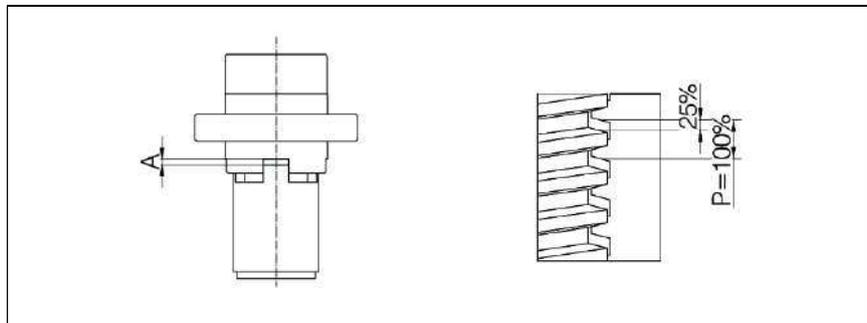

Fig. 20: Safety trap nut SIFA: Dimension "A" for comparison when checking wear
4. If a safety nut SIFA is available. Measure and note down dimension "A" (see fig. 20). This dimension in new condition serves as a comparative measure in the further course of operation in order to be able to evaluate the wear (see chapter 7.1.1.)
3. If a safety nut SIFA is fitted: Check wear in accordance with the Fig. 20 (right hand picture) .